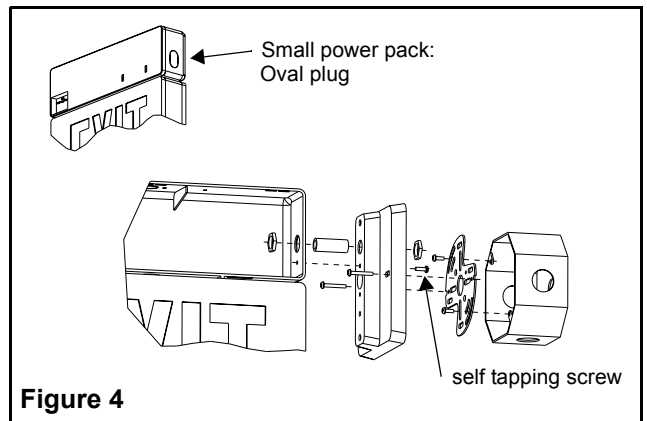
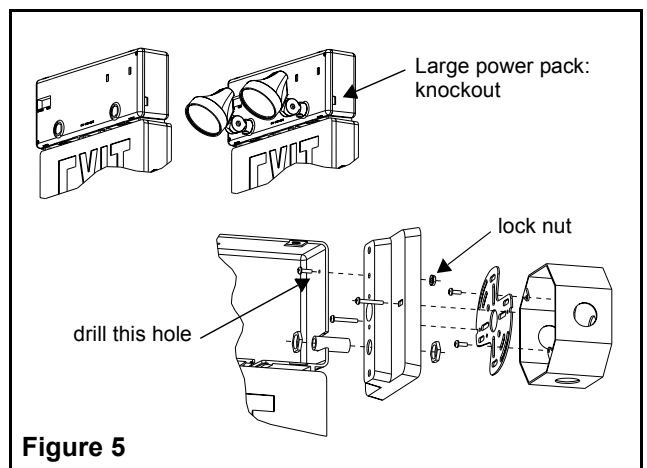

Figure 4
Figure 5
Important — Depending on the model, there are two possible power pack housings with this unit. The small power pack has an oval plug on the side (see fig. 4). The large power pack has a knockout on the side (see fig. 5). Follow the proper mounting solution and continue to step 7.
- b. Use a threaded nipple and two hexagonal nuts as well as the self tapping screw 1/2" to mount the canopy (see fig. 4).
- b. Use a threaded nipple and two hexagonal nuts in the knockout to mount the canopy (see fig. 5). Tighten the nuts while keeping the canopy in the right position. Use the Ø3/16" hole in the canopy as a template to drill a hole in the housing. Insert the #8-32 screw and lock nut (the nut should be in the canopy) to fix in place.